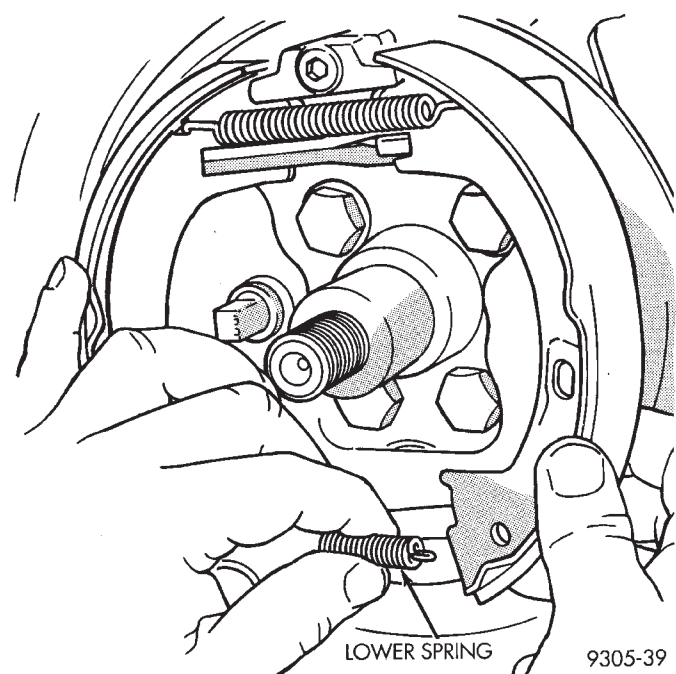

Fig. 7 Installing Lower Spring
(4) Install lower parking brake, shoe to shoe return spring (Fig. 7).